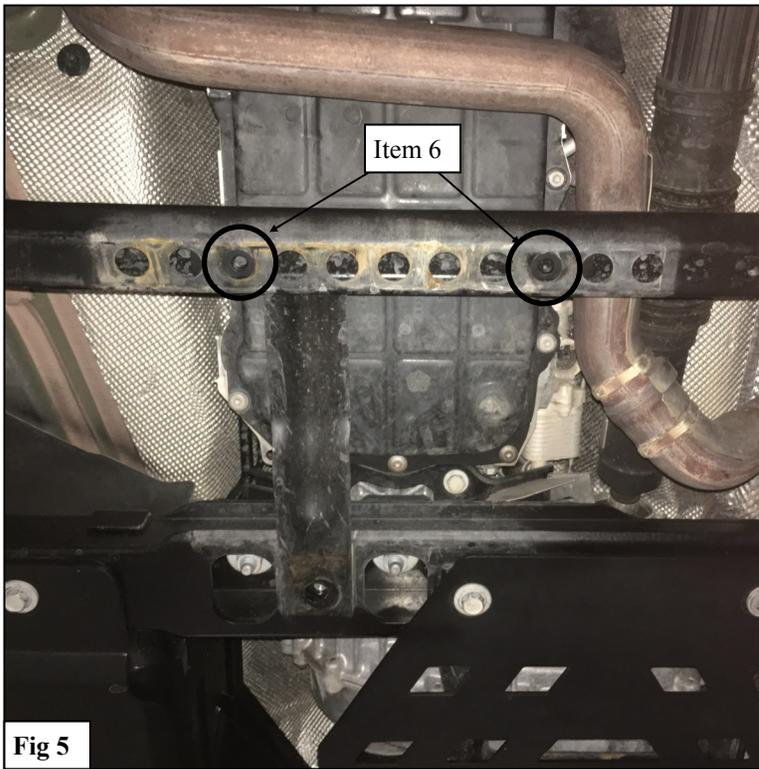

Fig 5
6. Insert the supplied Nut Plates (6) into the cross member shown in **Figure 5**.